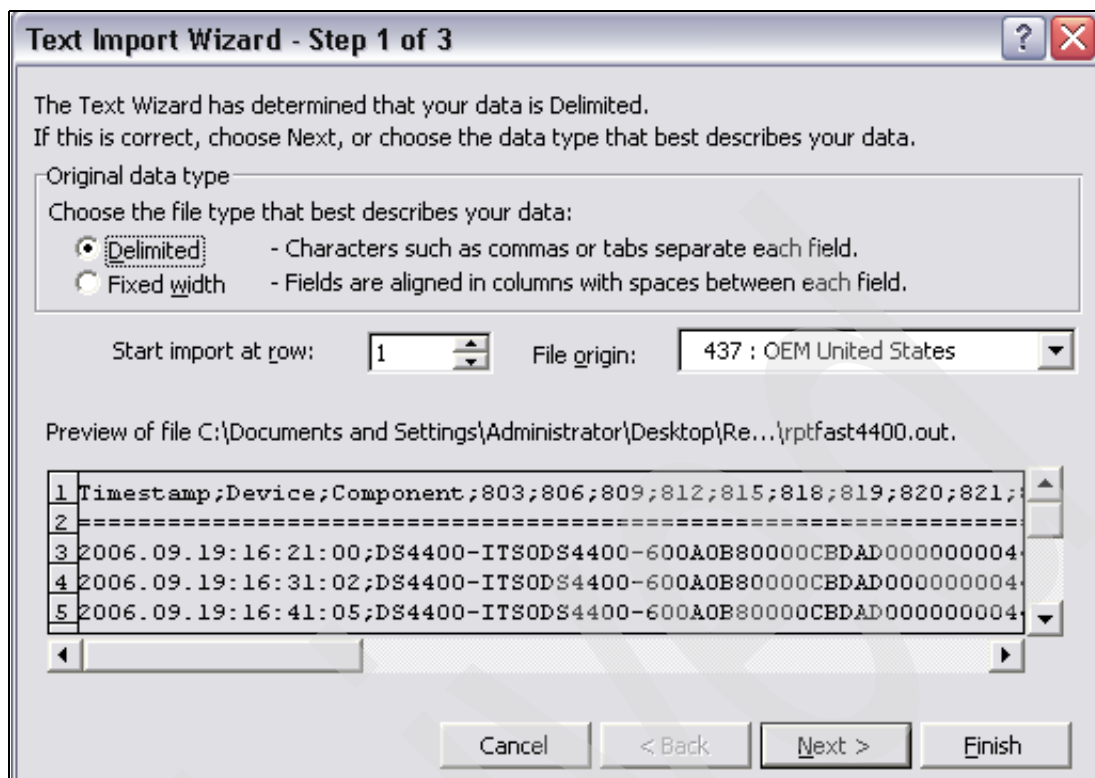

Figure 6-59 Select Delimited (default) and click Next
4. This starts the text import wizard. See Figure 6-59 on page 286. Select **Delimited** (default). Click **Next** to continue.